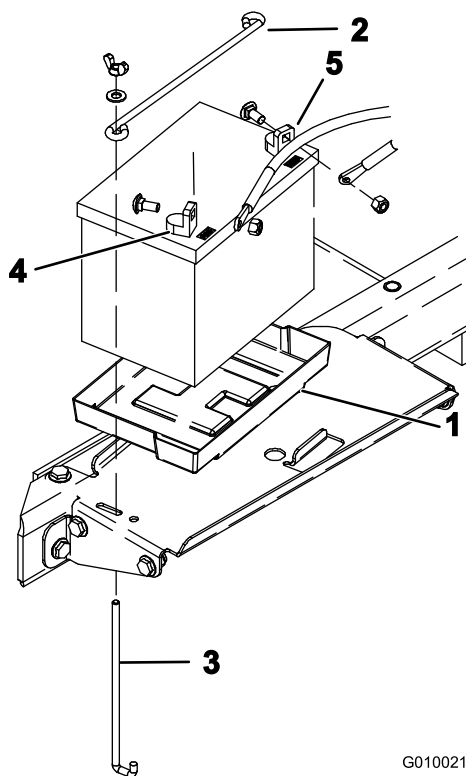

Figure 6
8. Insert the battery into the tray in the battery compartment (Figure 6). Position the battery so the terminals are to the outside.
9. Secure the battery to the compartment base with a battery rod, 2 hold down rods, 2 flat washers, and 2 wing nuts (Figure 6).
10. First, secure the positive cable (red) to the positive (+) battery terminal with a carriage bolt and nut (Figure 6), then the negative cable (black) to the negative (-) terminal of the battery with a carriage bolt and nut (Figure 6). Slide the rubber boot over the positive terminal to prevent a possible short from occurring.